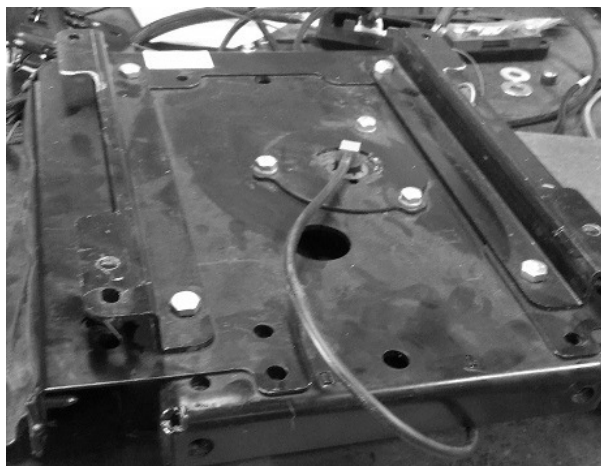

Fig. 2A
2. Align the six way pedestal holes to the seat pedestal. The seat should sit in all four pre drilled holes square. No cutting or forcing into the holes is required. Install and tighten bolts snug with a 1/2" wrench. (See Fig. 2A and 2B)